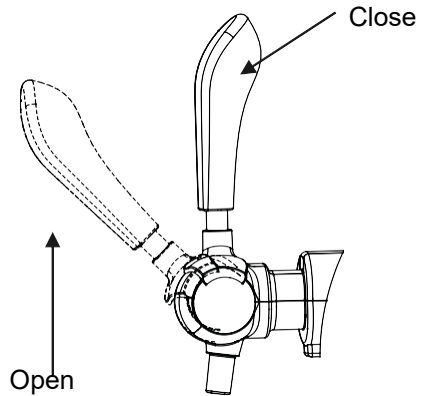

Figure 12
Note: Ensure that the tap is in closed position when connecting the hose and the adaptor. (Figure 12)
6. Pull the tap handle into 45 degrees to pour the beer from the Beer dispenser. (Figure 12) the beer flow rate and bubble can be controlled by adjusting the pressure regulator knob.